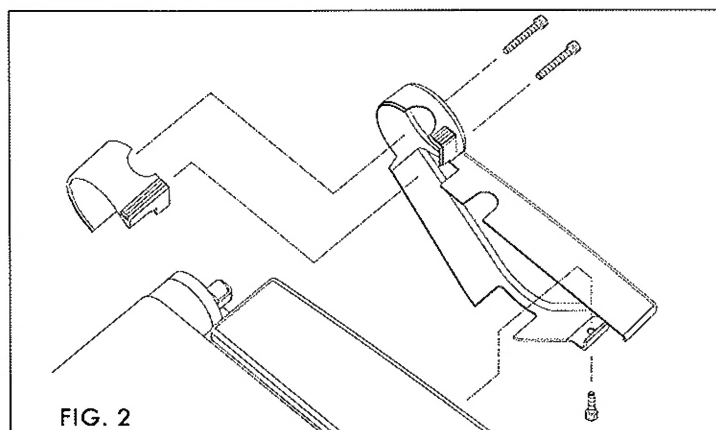

FIG. 2
STEP 2 REMOVE RIGHT SIDE COVER (FIG. 2)
Attach the Right Side Cover and Front Roller Cap. Careful not to pinch or break the ribbon cable. (See FIG. 2, page 6)